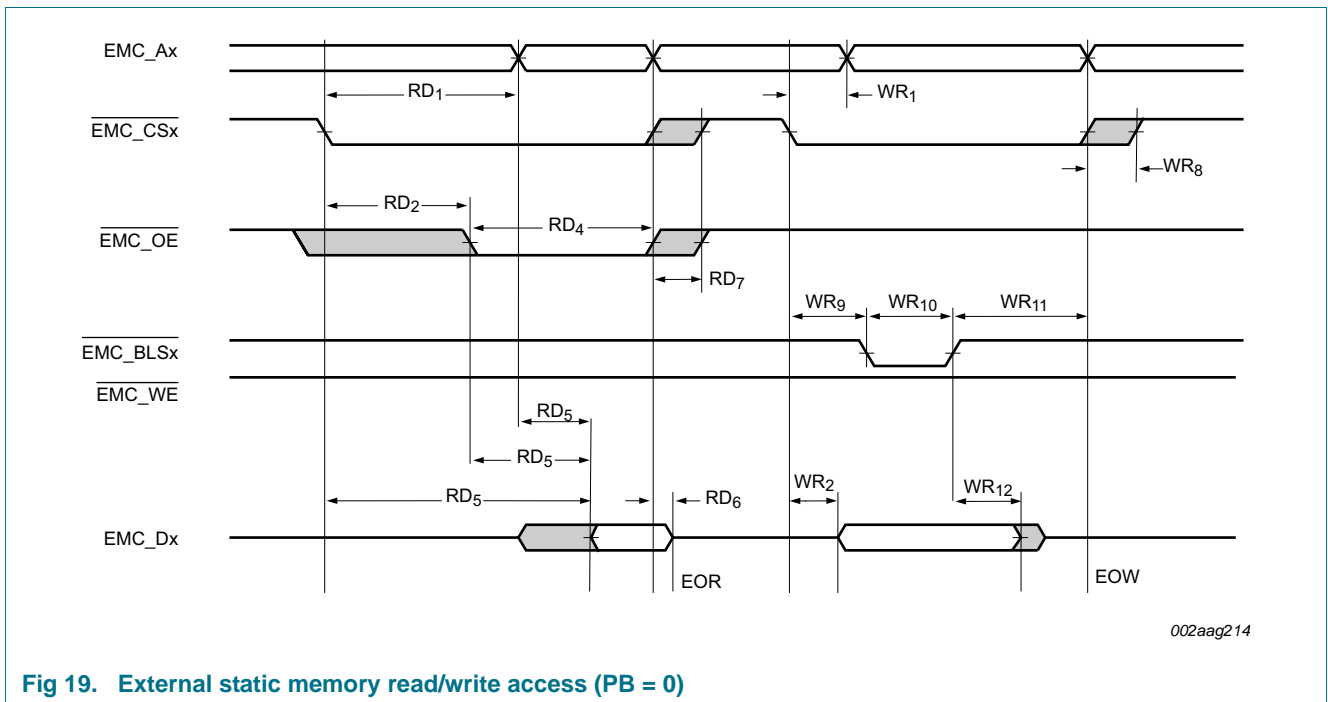

Fig 19. External static memory read/write access (PB = 0)
- [1] Parameters are shown as RD_n or WD_n in Figure 19 as indicated in the Conditions column.